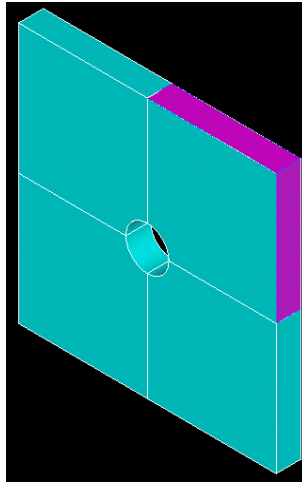

Figure 8. Areas to concatenate for 1 of the volumes that surround the hole.
- For *each* of the 4 volumes, select the two areas as shown in Figure 8 and click the **Apply** button.